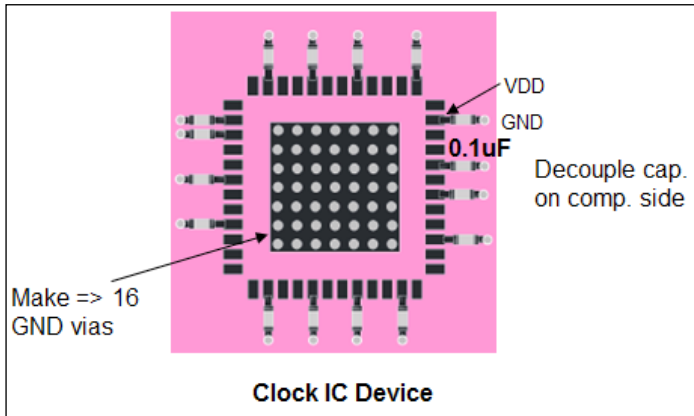

Figure 3. Layout guidance for VDD decoupling
0.1µF bypass capacitors should be used for each VDD pin, a 1µF capacitor in parallel can be used for better decoupling. The decoupling capacitor on component side has better decoupling filter result. So place the 0.1µF capacitor as close to the device as possible as shown in Figure 3.